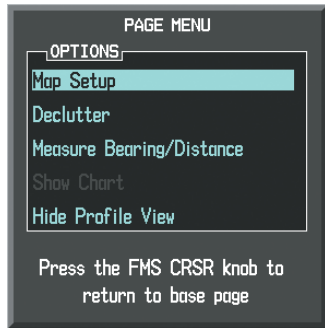

Figure 6-94 Navigation Map Page Menu
- 3) With 'Map Setup' highlighted, press the **ENT** Key (Figure 6-94).